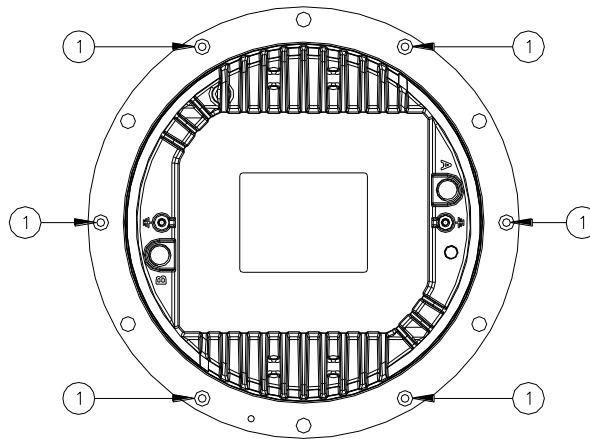

Figure 16 - Lower Cover Fixing Screws
- Open the fixture by unscrewing the six locking screws TORX SFH M5x10 (Figure 16 - n°1).
- six locking screws TORX SFH M5x10 (Figure 16 - n°1);
screws TORX SFH M5x10 (Figure 16 - n°1). One drop of anaerobic adhesive lower type (e.g. LOXEAL 24-18) should be applied to the screws before installation; tightening torque is 2.5 Nm.